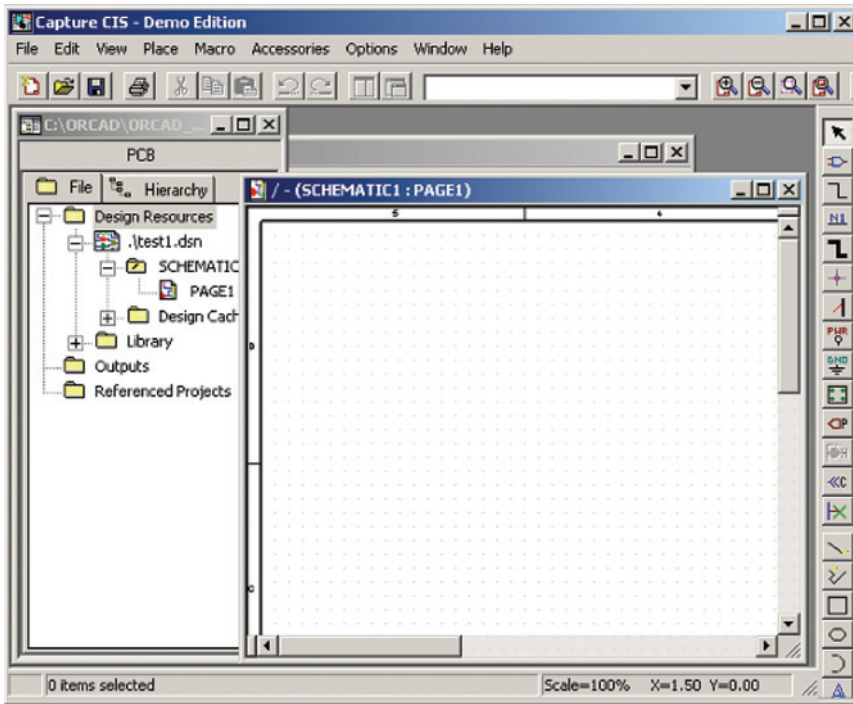

Figure 2-4 Example view of a new project.
You should have a Project Manager window in the left side of the Capture session frame as shown in Fig. 2-4. You may also have a Schematic window in the work space. If the schematic is not open, expand the **projectname.dsn** directory by clicking the “+” box that is to the left of the **projectname.dsn** icon (where *projectname* is the name you gave your project while using the project setup wizard). Click the “+” box next to the **Schematics** folder, and
- The menu bar at the top of the Capture session frame changes depending on whether you are working with the Project Manager window or the Schematic Page window. If you need to access options or tools for the Project Manager (or Schematic page) you need to have that window active. To make the desired window active click on its title bar, or select the desired window from the **Window** menu. When it is inactive it will be gray, and when it is active it will be blue (or whatever colors you have set up in Windows). Also, for projects that have PSpice simulation capabilities, there is an additional toolbar displayed, which is not shown in Fig. 2-4.